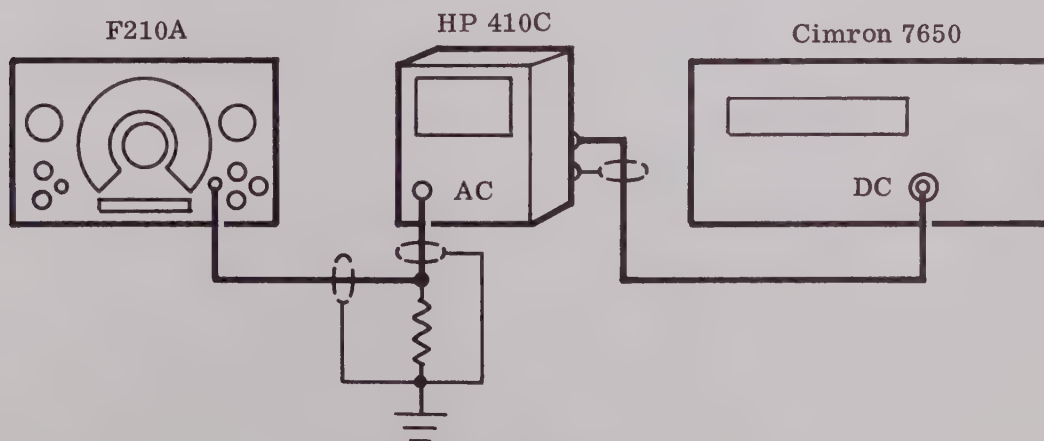

FIGURE 3-7
19. Interconnect the equipment as shown in Figure 3-7, observing signal and ground connections carefully.